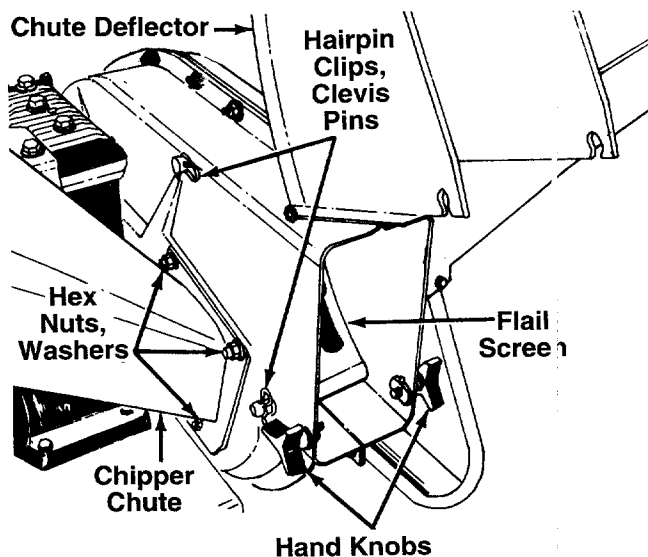

FIGURE 14.
3. Remove two hairpin clips from the clevis pins which extend through the housing. Remove the clevis pins. Lift the flail screen from inside the housing. See figure 14.
NOTE: Be certain to reassemble the flail screen with the curved side down as shown in figure 14.
3. Remove the chipper chute by removing three hex nuts and washers. A 1/2" wrench is required. See figure 14.